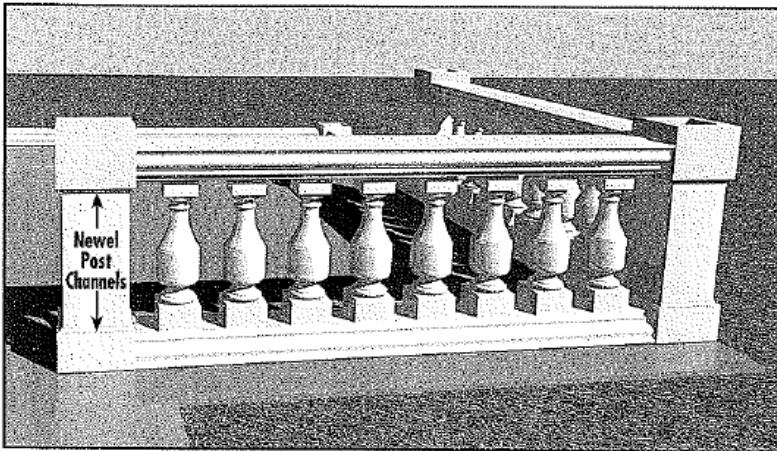

Fig. 7B
- C) Position a BALUSTER into each predrilled hole in the BALUSTER BOTTOM RAIL assembly. Align and cap off with predrilled BALUSTER TOP RAIL assembly (Fig. 7B).